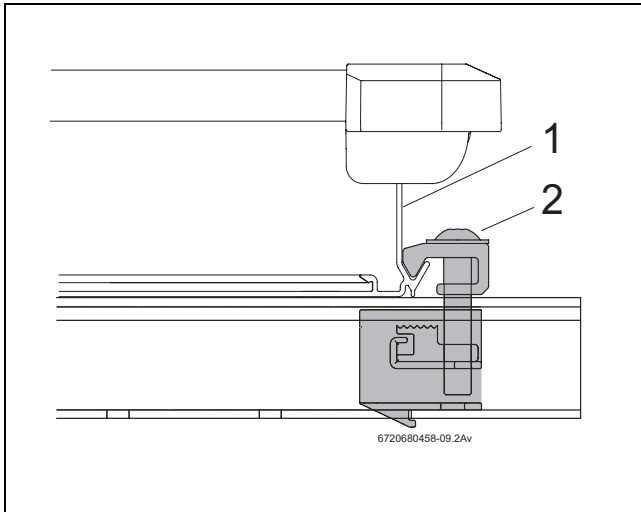

Fig. 39 Threaded side collector tensioner
- ▶ Push (Fig. 39, [1]) the collector carefully up against the side collector tensioner and align horizontally.
- ▶ Tighten the side collector tensioner with the size 5 spanner (Fig. 39, [2]).
The tensioner device (Fig. 39, [2]) now secures the lower corner of the collector.